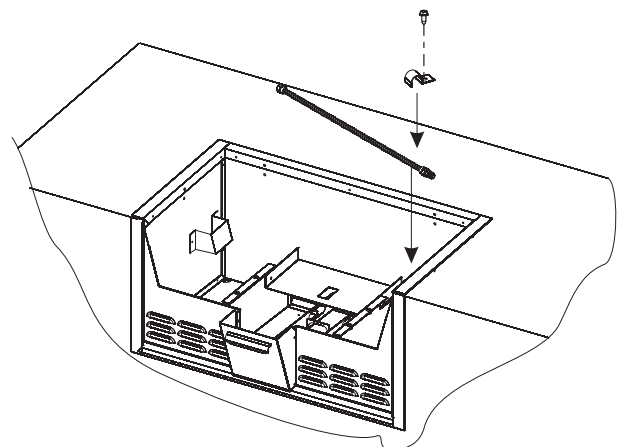

Figure 5
5. Attach the flex line to the bottom of the BHA surround using the flex line bracket and screw. See Figure 5.